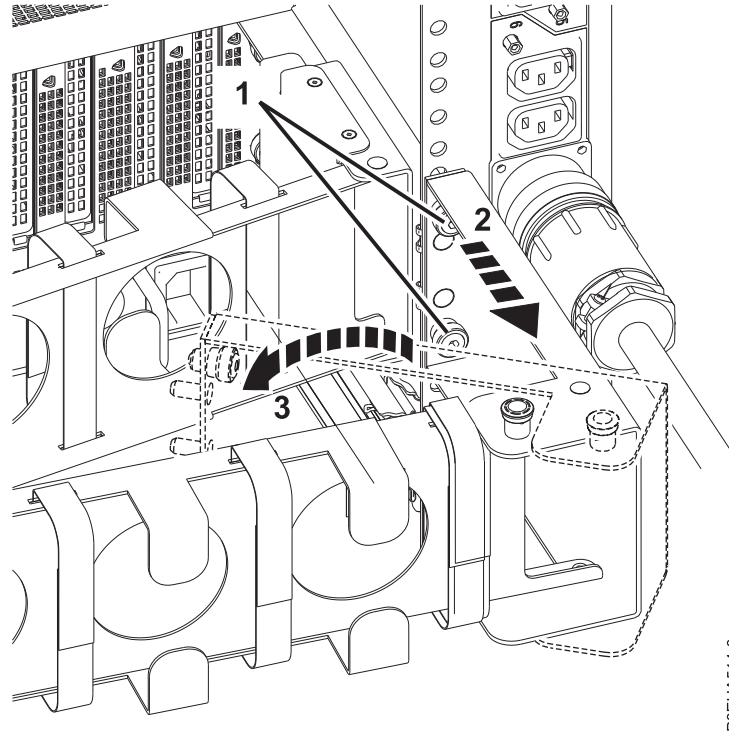

Figure 22. Steps to provide line cord clearance in a fully-populated system
- b. From the rear of the rack, loosen (but don't remove) the head screws (1). See Figure 22.
- c. Pull the cable management arm bracket toward you (2). See Figure 22.
- d. Pivot the cable management arm bracket to provide clearance (3). See Figure 22.